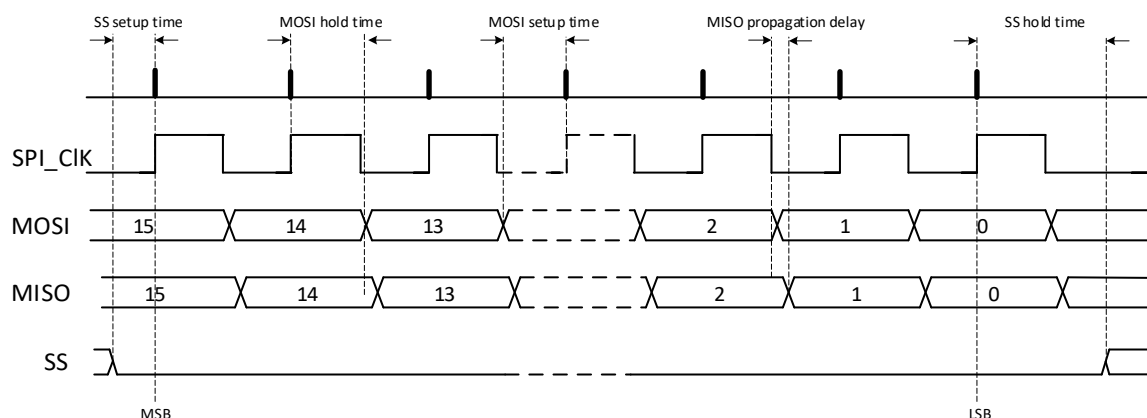

Figure 5.2: Timing diagram of SPI, CPOL=0 and CPHA=0.
The serial data transfer input (MOSI) and output (MISO) to the A111 are synchronized by the SPI\_CLK. The Slave Select signal (SS) must be low before and during transactions. The MOSI is always read on the rising edge of SCLK and the MISO changes value on the falling edge of SPI\_CLK (SPI mode 0, CPOL/CPHA = 0). SS requires release in between transactions. See figure 5.2 and table 5.1 for timing characteristics.